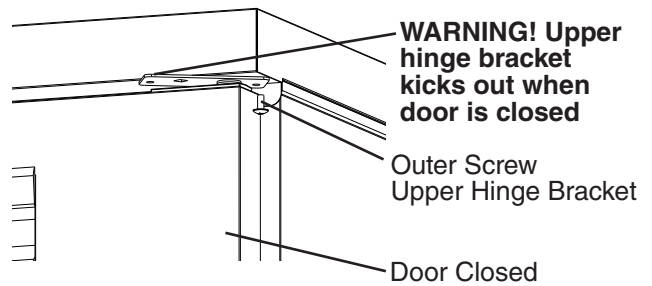

Fig. 4
- 3) Close the door. **WARNING! Keep away from upper hinge bracket. Upper hinge bracket kicks out when door is closed.** See Fig. 4. Remove the outer screw from the upper hinge bracket.